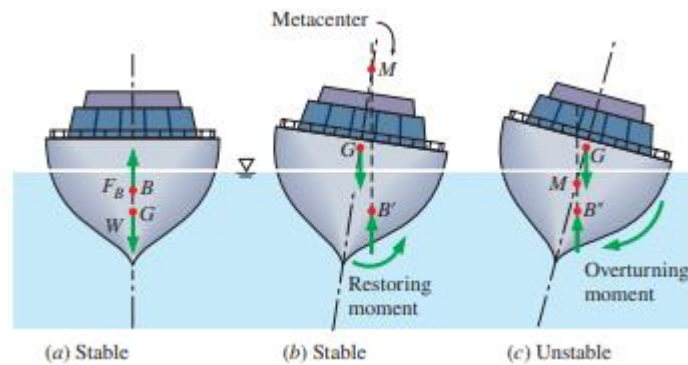

Figure 2: Stability of Boats in regards to Center of Gravity vs Center of Buoyancy
- **Maintain Stability:** As seen in Figure 2, to properly maintain stability the RoboBoat should have a center of gravity below the center of buoyancy, and as the boat rocks the metacentric height GM , which is the distance between the center of gravity G and the metacenter M , will self-correct the boat's stability. If the center of gravity is above the center of buoyancy then the boat's metacentric height will cause an overturning moment, capsizing the boat. Thus the team aims to have a boat that is bottom-heavy.